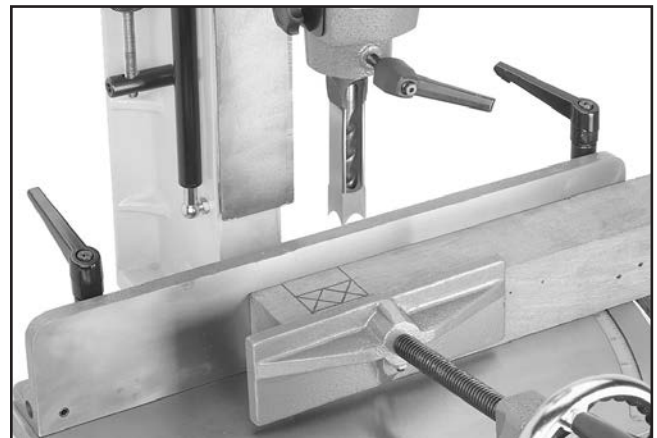

Figure 16. Aligning the mortising chisel.
2. Use the table controls to align the mortising chisel with the layout lines (see **Figure 16**) and set the depth and table stops.